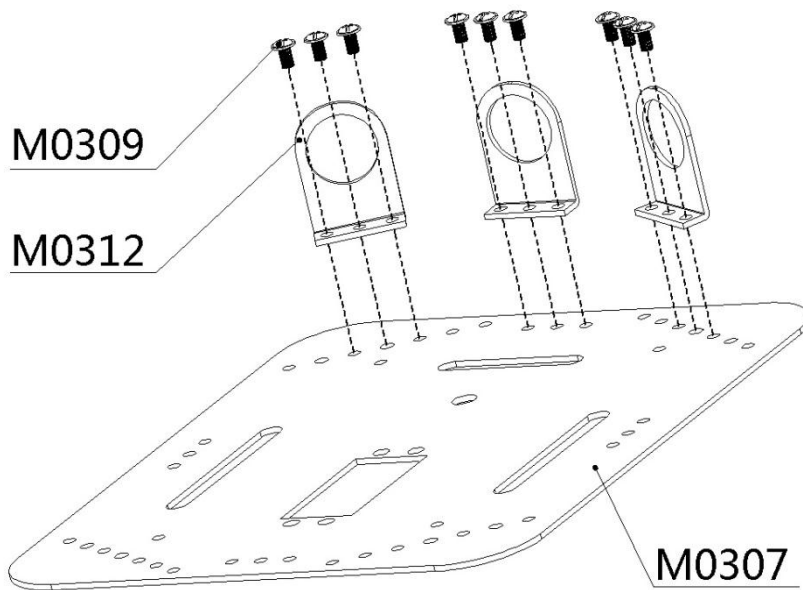

Figure 4-9
15. Figure 4-9; use flange screws to fix the IR sensor's mounting bracket on the top plate.